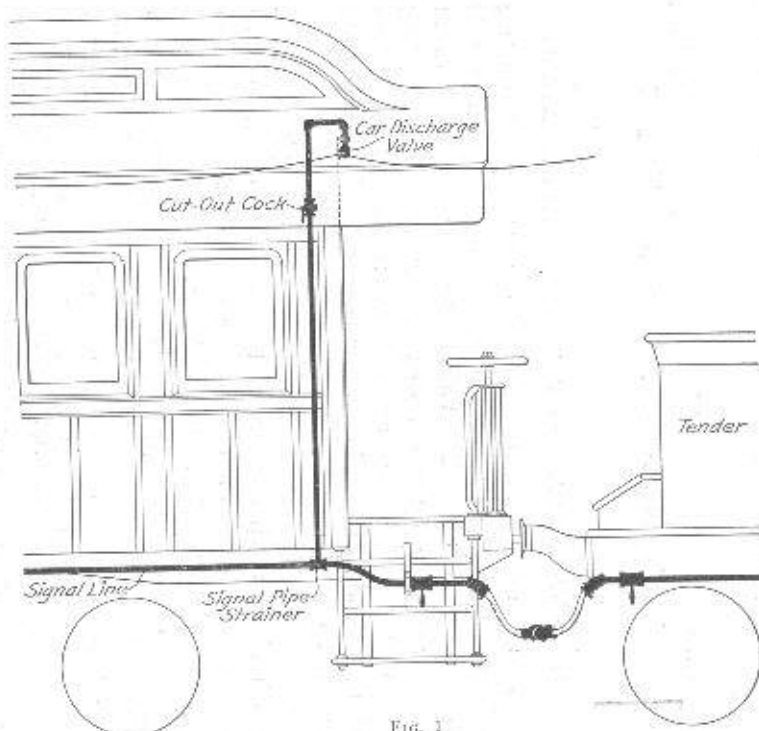

FIG. 1
1. The general arrangement of the train air-signaling apparatus on an engine, tender, and passenger car is shown in Figs. 1 and 2. This system has gradually taken the place of the old bell-cord-and-gong method of signaling on passenger trains, on account of the ease and certainty with which signals can be transmitted to the engineer from any part of the train.
A *car discharge valve*, Fig. 1, is provided on each car. This is usually located outside the car above the door, as shown in the figure, and is piped to the train signal pipe. Sometimes, however, it is placed inside the car above the door, to guard against the valve being clogged in winter. The former position is preferable, however, as the chances of clogging are small, and the annoyance caused by the sharp sound of discharging air every time the valve is opened to make signals is avoided.
Referring to Fig. 1, it will be seen that the branch pipe to the discharge valve is supplied with a strainer (where it
13. If no exhaust occurs at the discharge valve when the signal cord is pulled, the signal pipe being properly charged, the trouble may be due to the cut-out cock, Fig. 1 (usually placed in the saloon), being turned so as to cut out the discharge valve, to a loose seat in discharge valve 3, to a stopped-up strainer in the signal pipe T, or to a collapsed hose lining.
14. If an exhaust occurs at the discharge valve when the signal cord is pulled, but the signal whistle fails to give a blast, the trouble may be due to the strainer in the T, where the branch pipe connects with the signal pipe, being stopped up (see Fig. 1). In this case, the exhaust may sound all right, since there is considerable air in the branch pipe between the strainer and the discharge valve, but the air in the main pipe cannot get past the strainer fast enough to make a sufficiently quick reduction to operate the signal valve. If the trouble is not in the strainer, it may be that: port *d* of the signal valve is stopped up, in which case no air can enter the valve to charge it; stem 10 of signal valve has worn sufficiently loose in bushing 9 to allow pressure in chamber *B* to reduce about as fast as that in chamber *A*; the signal-valve diaphragm is bagged or, possibly, cracked; the bell of the signal whistle is imperfectly adjusted or its bowl is full of dirt; the whistle is so situated that wind blowing across the bowl prevents it from sounding; or it may be dirt in port of bushing 7.